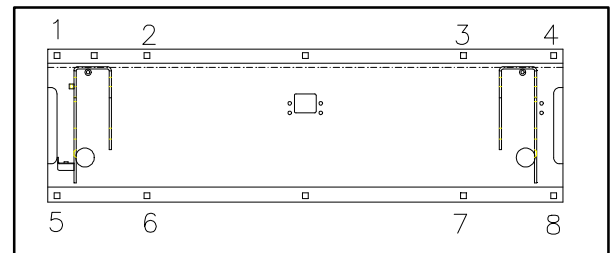

FIGURE 2-5: VAN BASEPLATE HOLES
- 3) Refer to **Figure 2-5**. Mark/drill four 25/64" baseplate assembly mounting holes (1, 2, 3 and 4) through vehicle floor. (On Dodge and GM vans, you must drill through vehicle floor and subframe).